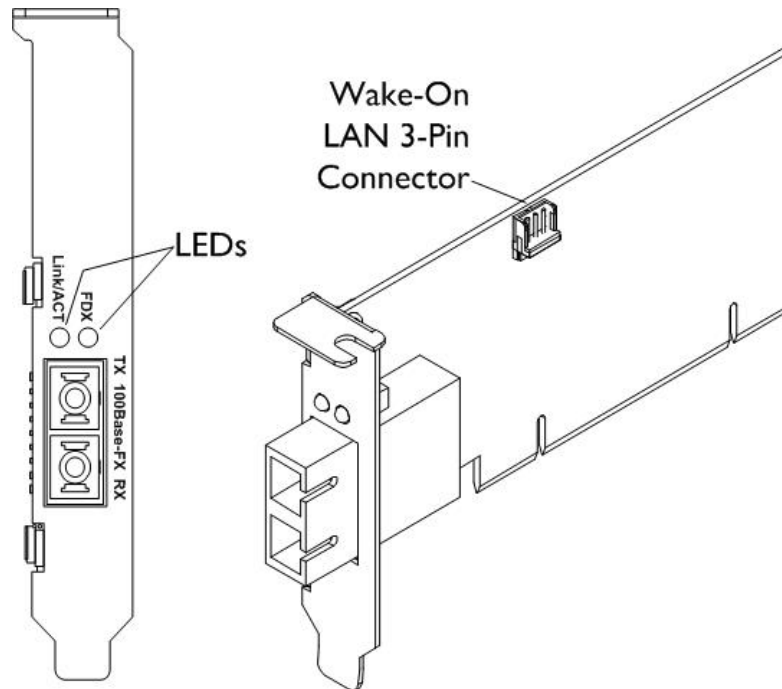

Figure 1: LEDs and Wake-On LAN Connector
The N-FX module has bootable ROM and Wake-On LAN capabilities. The two LED indicators, **LINK/ACT** and **FDX**, located on the bracket, show network/board link, activities, collision, and full-duplex statuses. See Figure 1 below.
- a. via WoL 3-pin connector (Fig. 1 above), or